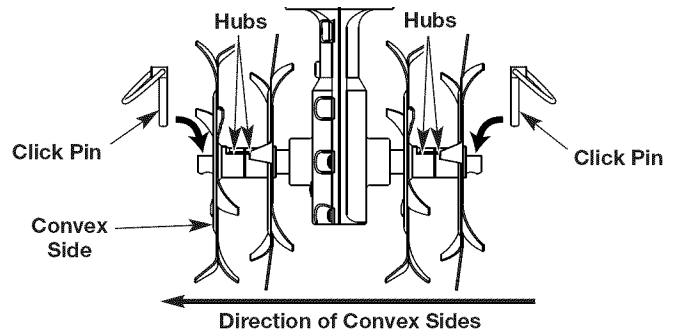

Fig. 9
3. Remove the click pins from each end of the tine shaft (Fig. 9). Slide the tines off of the shaft.
5. Slide on the new tines with the hubs facing in towards each other (Fig. 9).
**NOTE:** Each tine has a convex side. Make sure that all of the convex sides are facing as shown in Figure 9.
6. Secure the new tines to the shaft with click pins (Fig. 9).